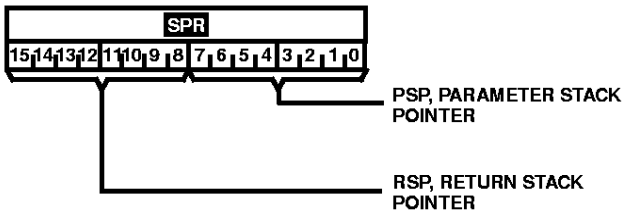

FIGURE 7. **SPR** BIT ASSIGNMENTS
**SPR**: The Stack Pointer Register holds the stack pointer value for each stack. Bits 0-7 represent the next available stack memory location for the Parameter Stack, while bits 8-15 represent the next available stack memory location for the Return Stack. These stack pointer values must be accessed together, as **SPR**. See Figure 7.
The operation of the Programmable Stack Controllers depends on the contents of three registers. These registers are **SPR**, the Stack Pointer Register, **SVR**, the Stack Overflow Limit Register, and **SUR**, the Stack Underflow Limit Register (see Figures 7, 8, and 9).